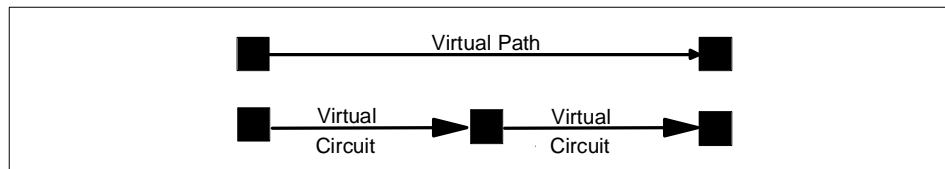

Figure 39. Components Forming a Virtual Path
A virtual path (VP) connects two end stations, which may be separated by one or more network devices such as a router or switch. A path consists of one or more virtual circuits, as you can see in Figure 39.